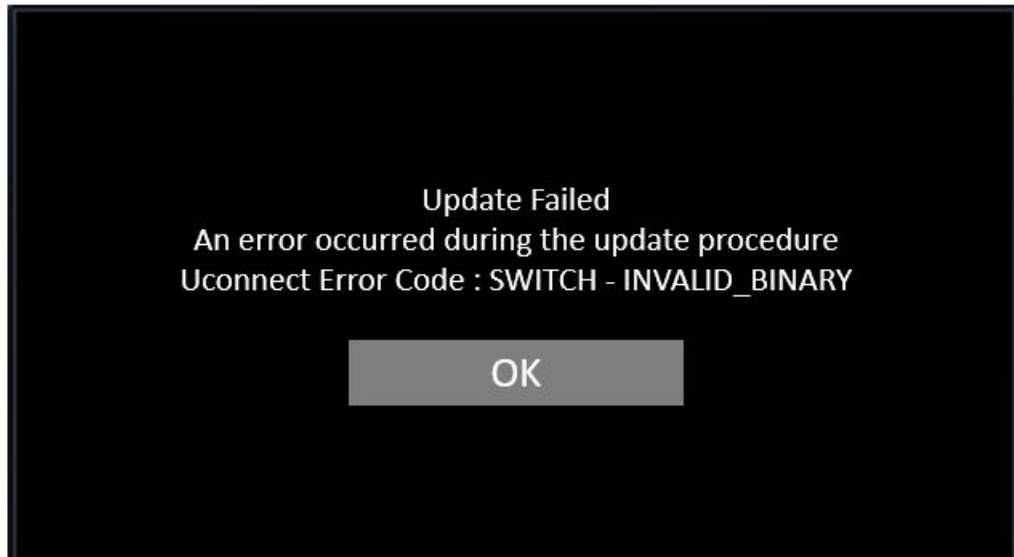

Fig. 6
15. Sometimes the radio will display an error pop up “ Invalid_Binary_Switch “ after successful radio update. Please ignore this error message and press “OK” to continue (Fig. 6) .